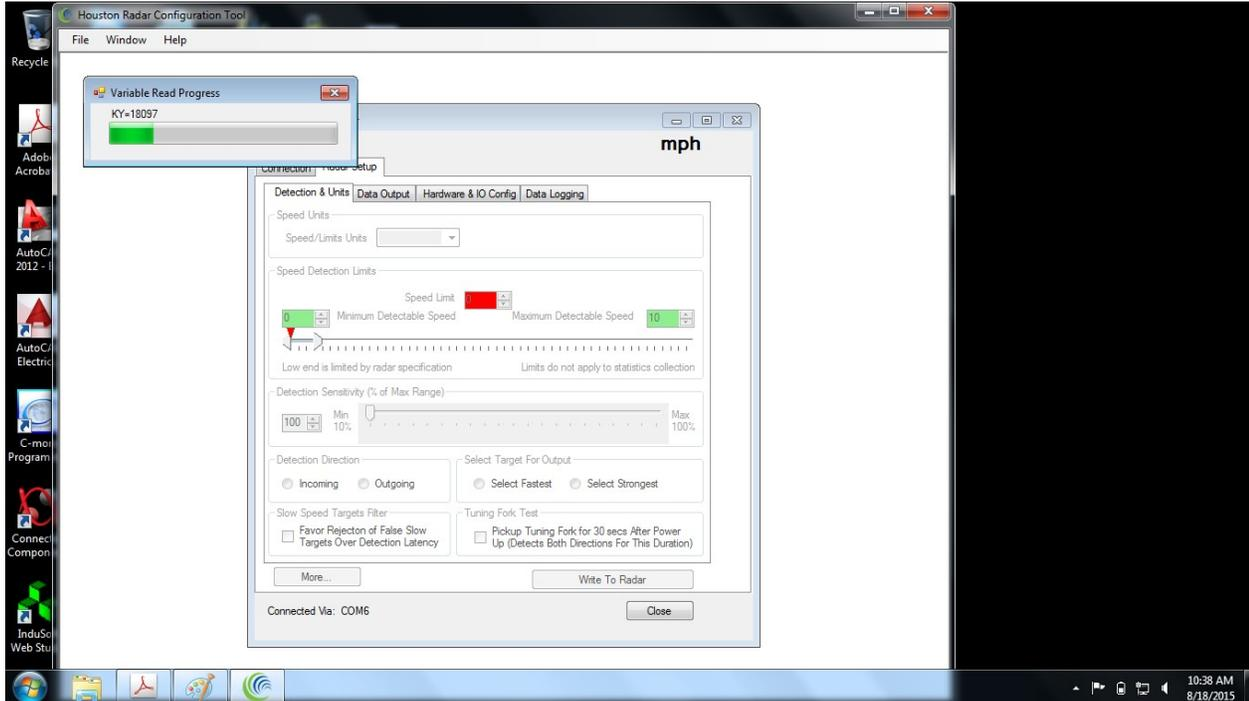

Figure 8
6.) Click on the Radar Setup Tab. The existing parameters that are currently loaded in the radar will be uploaded. See Figure 8.